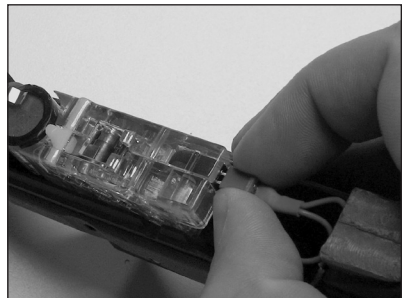

Figure 36: Carefully Pull the Laser + Lead Plug rearward
- Carefully pull the + leads laser plug from the trigger module as shown in Figure 36.